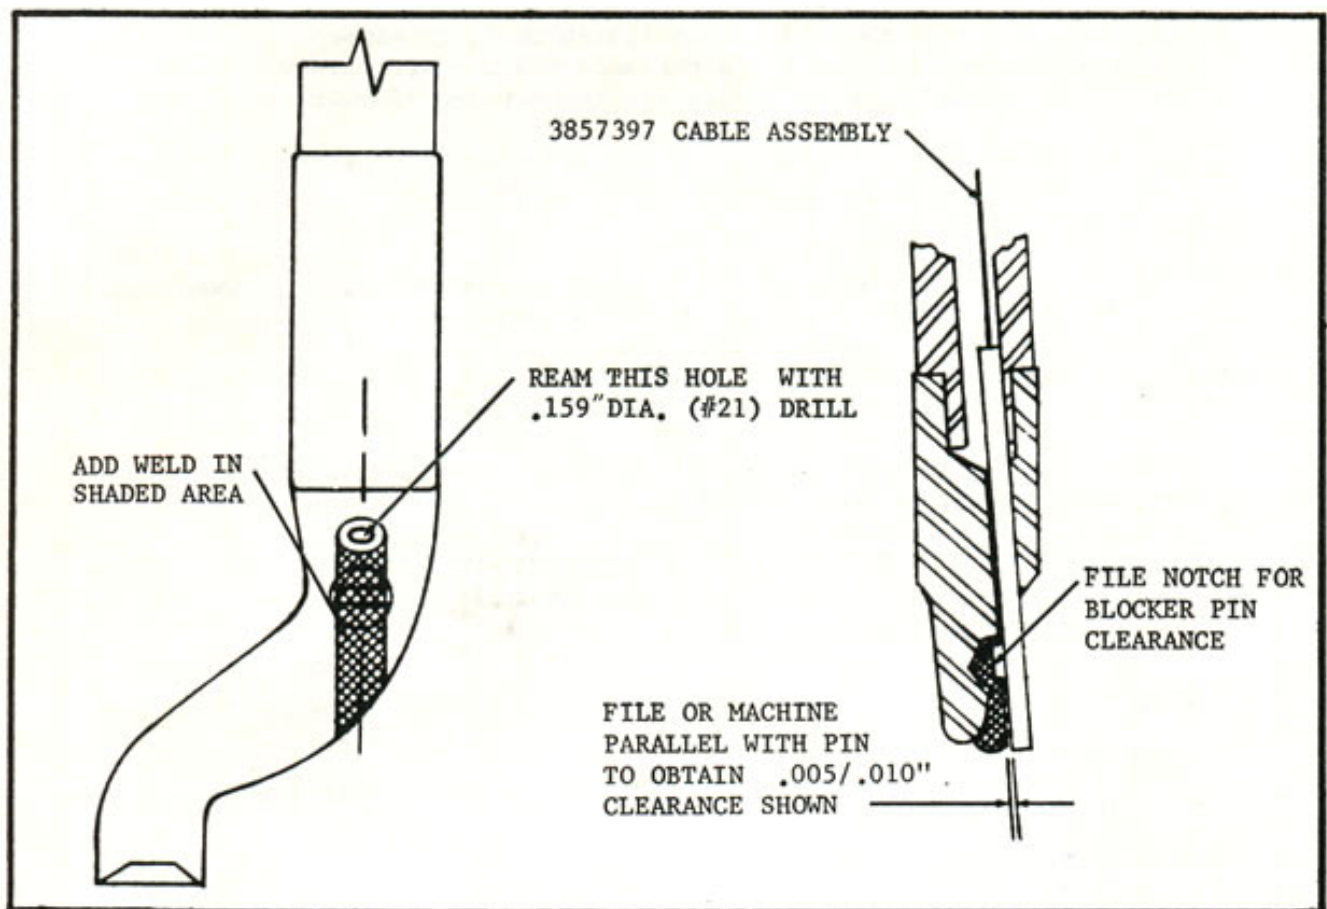

FIG. 4 - MODIFICATION OF SHIFT LEVER LOWER END
2. Add a heavy weld or brass bead to the shift lever as shown by the shaded section of Figure 4.